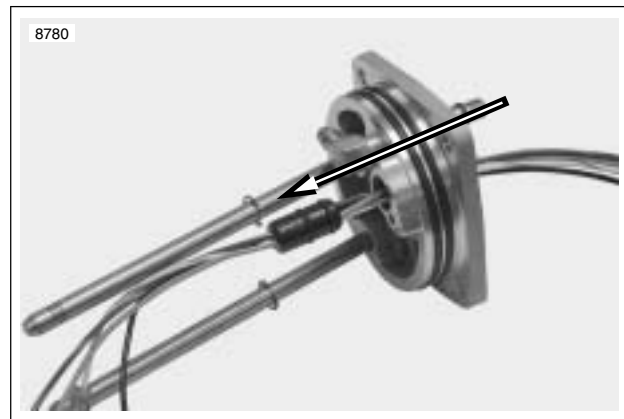

Figure 4-92. Wire Harness Removal Direction
9. See Figure 4-92. From outer side of fuel pump assembly, push wire harness through assembly.